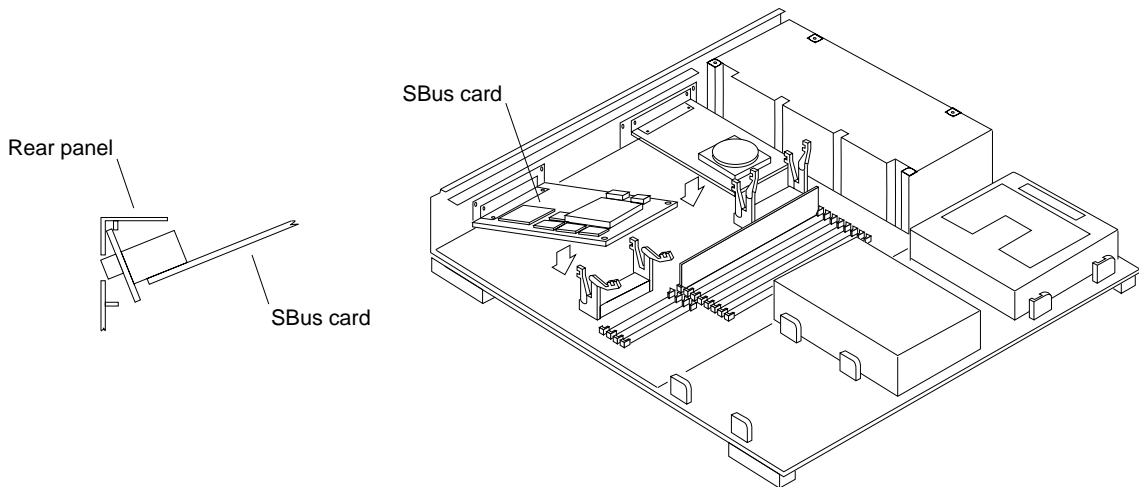

FIGURE 6-7 Installing the SBus Card in Slot 2 or 3
b. Slide the SBus card at an angle into the back panel of the system unit (See FIGURE 6-7).